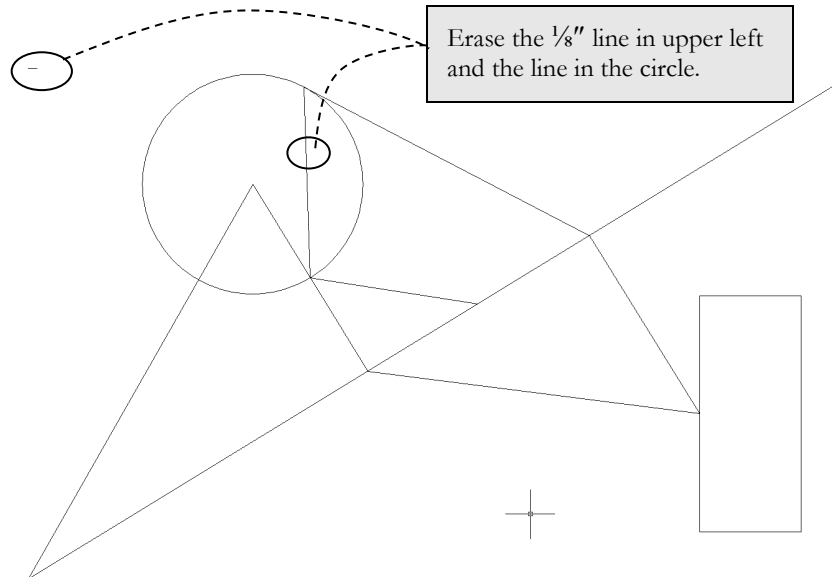

FIGURE 2-3.2 Lines to be erased
4. [Notice the *Command* line is prompting: **Select objects:**] Use the mouse to select the lines identified in **Figure 2-3.2**.